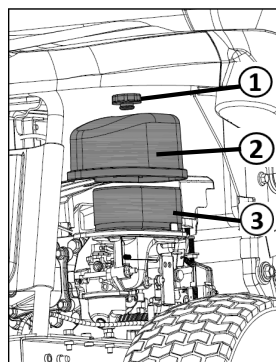

Figure 37
3. Unscrew the mounting screw (Figure 37 ①).
4. Pull the air filter cover (Figure 37 ②) upwards off the guide.
5. Pull the air filter (Figure 37 ③) off the guide.